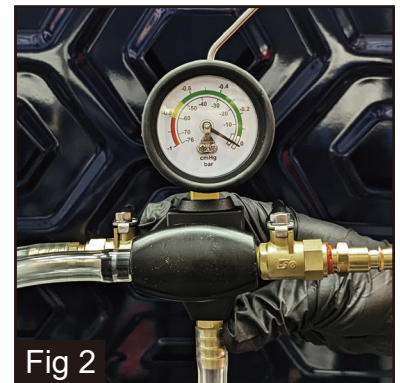

Fig 2
- 7 Open the air valve and vacuum can be created (Fig 2)